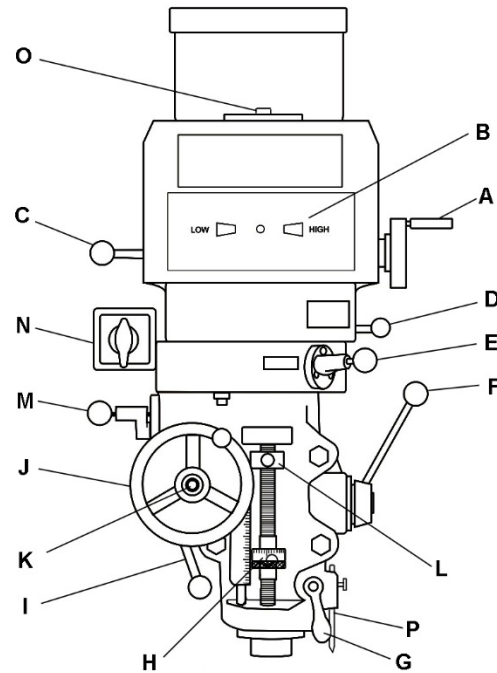
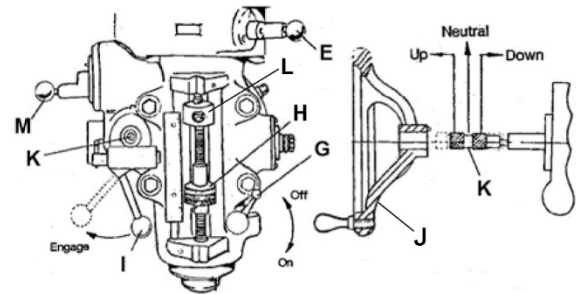

Figure 9-1: Controls
Figure 10-3: Manual feed controls
8. Remove any rust proofing from drawbar (O, Figure 9-1) and its washer, and place drawbar with washer installed into spindle center through top of machine.
9. Slide fine feed handwheel (J, Figure 9-1) over handwheel hub and push it back until its roll pin engages hole in the hub and handwheel is flush with hub surface.
10. Place coarse feed handle (F, Figure 9-1) on feed shaft and tap it lightly until its roll pin engages a hole in the hub. Tighten set screw to secure handle.
Refer to Figure 9-1.
- A. **Variable Speed Control** (A, Figure 9-1) – Turn handwheel to adjust spindle speed.
- G. **Quill Lock** (G) – Rotate handle clockwise to lock quill in desired position; counter-clockwise to release.
- H. **Micrometer Adjusting Nut** (H) – Used for setting spindle depth, according to adjoining scale. Press button to rapidly slide nut for general positioning. Release button and rotate nut for fine adjustment. **Note:** One complete rotation of micrometer adjusting nut equals 0.025" (0.635mm) of spindle travel.
- I. **Feed Trip Control Lever** (I) – Engages overload clutch on pinion shaft when lever is positioned to the left. Stays engaged until quill stop comes into contact with micrometer adjusting nut (forcing feed control lever to drop out automatically), or until lever is released manually by moving lever to the right.
- J. **Manual Fine Feed Handwheel** (J) – Feed direction control knob (K) must be in neutral position. The feed control lever (I) must be engaged. **Note:** Manual feed handwheel may be removed when not in use.
- K. **Feed Direction Control** (K) – located in center of manual feed handwheel. Position of knob depends upon direction of spindle rotation. If boring with right hand cutting tools, pull feed knob towards operator until clutch becomes engaged. Neutral position is between forward and reverse position.
(Refer to Figure 10-3 and accompanying text for further detail.) If control does not engage easily, move handwheel (J) back and forth to aid engagement.
To change from high to low-speed range, push in lever (D, Figure 9-1) and rotate it almost 180 degrees. Lever will stay in position once pressure is released.
Refer to Figure 10-3.
1. Disengage auto feed by pulling out knob (E, Figure 10-3) and moving lever to left hole.
2. Position feed reversing knob (K) to center, or neutral, position.
3. Disengage feed trip lever (I) by pushing towards head assembly.
4. Use coarse feed handle (see F, Figure 9-1) to move spindle.
Refer to Figures 9-1 and 10-3.
1. Ensure quill lock (G, Figure 10-3) is loosened by rotating counterclockwise.
2. Set micrometer nut (H) to desired depth.
3. Engage auto feed lever (E) by pulling out knob and moving lever to the right hole.
4. Select feed direction by setting feed direction knob (K) position per Table 4.